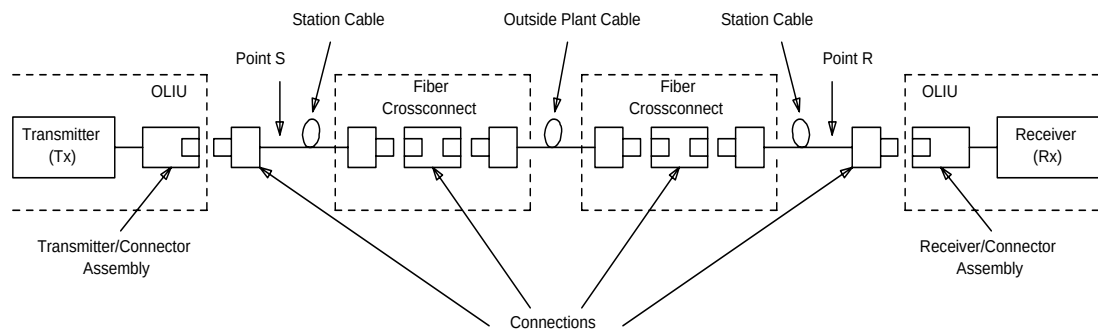

Figure 10-1. Optical System Interfaces (Points S and R)
The 21G/21G-U/21G2-U long reach OC-3 interface supports span lengths up to 55 km, assuming 0.45 dB/km single-mode fiber (including splices) and the span engineering rules outlined in Figure 10-1. Transmit and receive powers are referenced to points S and R as shown in Figure 10-1. Table 10-5 and Table 10-6 provide detailed specifications and link budget information for the 21G/21G-U/21G2-U OLIU.
1. All terminology is consistent with TR-253, Iss. 2. All specifications for 21G/21G-U/21G2-U OLIU meets or exceeds long reach (LR) values described in TR-253, Iss. 2.
- † Transmit and receive powers are referenced to points S and R as shown in Figure 10-1.